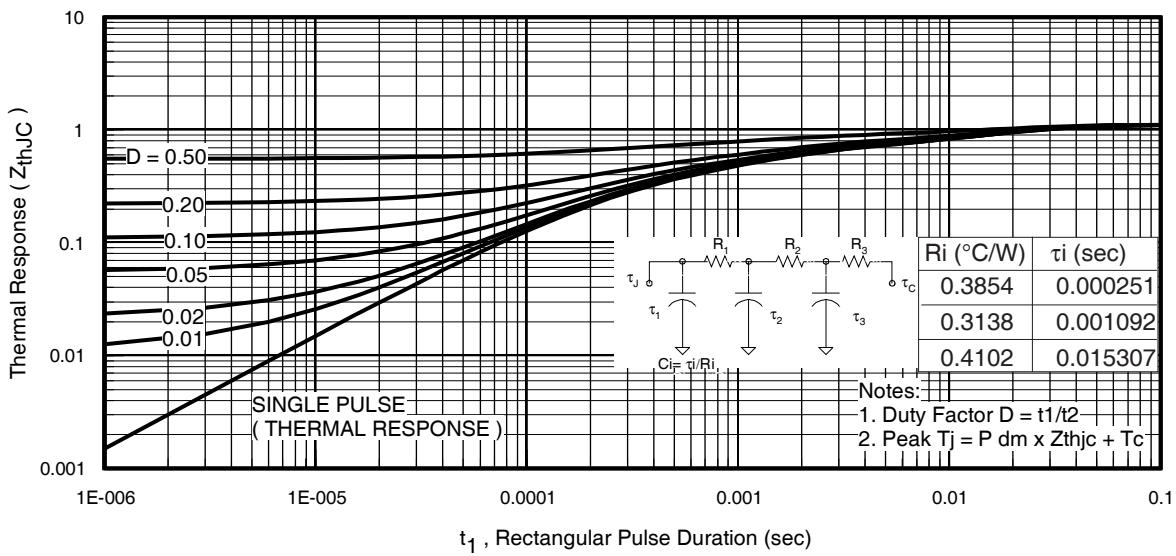
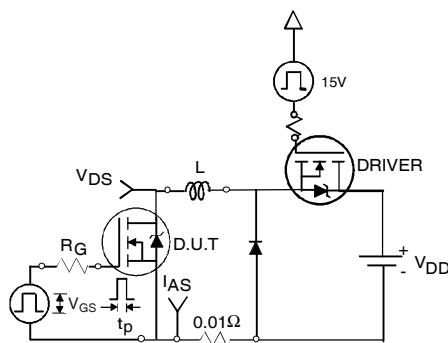

Fig 11. Maximum Effective Transient Thermal Impedance, Junction-to-Case
Fig 12a. Unclamped Inductive Test Circuit
- ① Repetitive rating; pulse width limited by max. junction temperature. (See fig. 11).
- ② Limited by $T_{J\text{max}}$, starting $T_J = 25^\circ\text{C}$, $L = 0.13\text{mH}$ $R_G = 25\Omega$, $I_{AS} = 42\text{A}$, $V_{\text{GS}} = 10\text{V}$. Part not recommended for use above this value.
- ③ Pulse width $\leq 1.0\text{ms}$; duty cycle $\leq 2\%$.
- ④ $C_{\text{oss eff.}}$ is a fixed capacitance that gives the same charging time as C_{oss} while V_{DS} is rising from 0 to 80% V_{DSS} .
- ⑤ Limited by $T_{J\text{max}}$, see Fig.12a, 12b, 15, 16 for typical repetitive avalanche performance.
- ⑥ This value determined from sample failure population. 100% tested to this value in production.
- ⑦ When mounted on 1" square PCB (FR-4 or G-10 Material). For recommended footprint and soldering techniques refer to application note #AN-994
- ⑧ R_θ is measured at T_J approximately 90°C
3. Equation below based on circuit and waveforms shown in Figures 12a, 12b.
$Z_{thJC}(D, t_{av})$ = Transient thermal resistance, see figure 11)